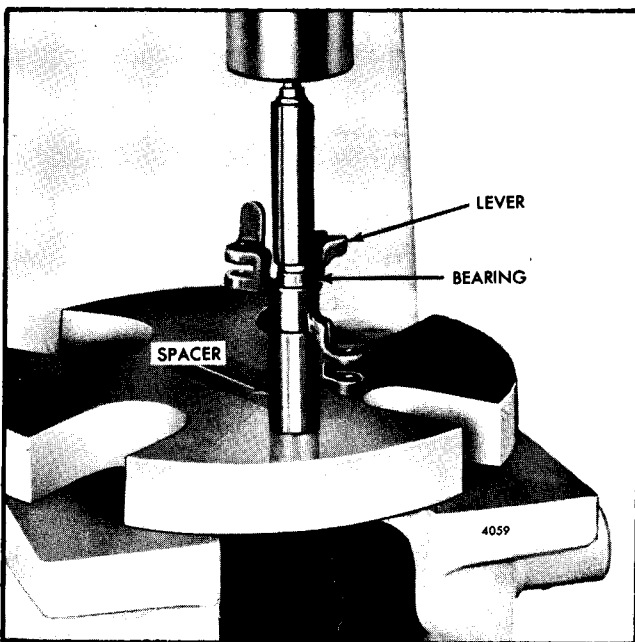

Fig. 15 - Installing Bearings in Control Link Lever using Tool J 21068
11. Support the control link lever on a steel spacer on the bed of an arbor press. Start one bearing, number side up, in the lever and press it flush with the lever with tool J 21068 (Fig. 15). Invert the lever and install the second bearing in the same manner.